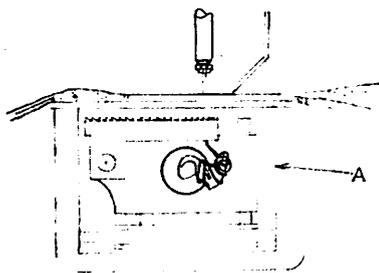
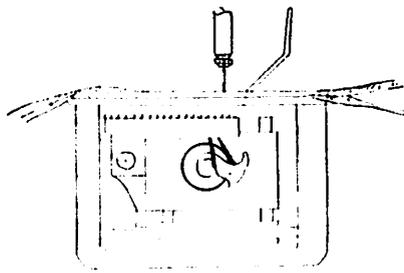

Figure No. 19
Figure No. 20
21. If the machine is not handled properly; or is out of time or any other adjustment, the thread may tangle around the looper. See Figure No. 19. As a result the machine won't feed and may chew up the bag. When this occurs, STOP the machine immediately. If you continue to run the machine in this condition, the thread will pile up around the looper and break it. If you think machine is not acting right, stop and look at the open end "A," Figure No. 19. It is not necessary to remove machine from bag to do this. If the stitch formation is perfect, it will look like Figure No. 20.